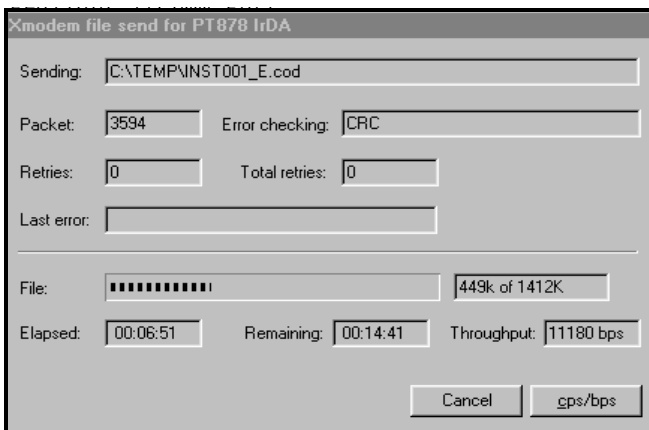

Figure 8-32: The File Transmission Window
4. Click *Send*. For a successful transfer, the PC window appears similar to Figure 8-32 below, while the PT878 screen displays the program ID, size, load address and a count of blocks being loaded.